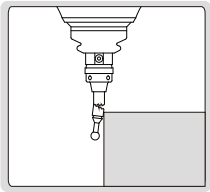

Figure 12
- When the probe is subjected to excessive force, the fracture point of the measuring needle breaks, so that can protect the main body (Figure 12)